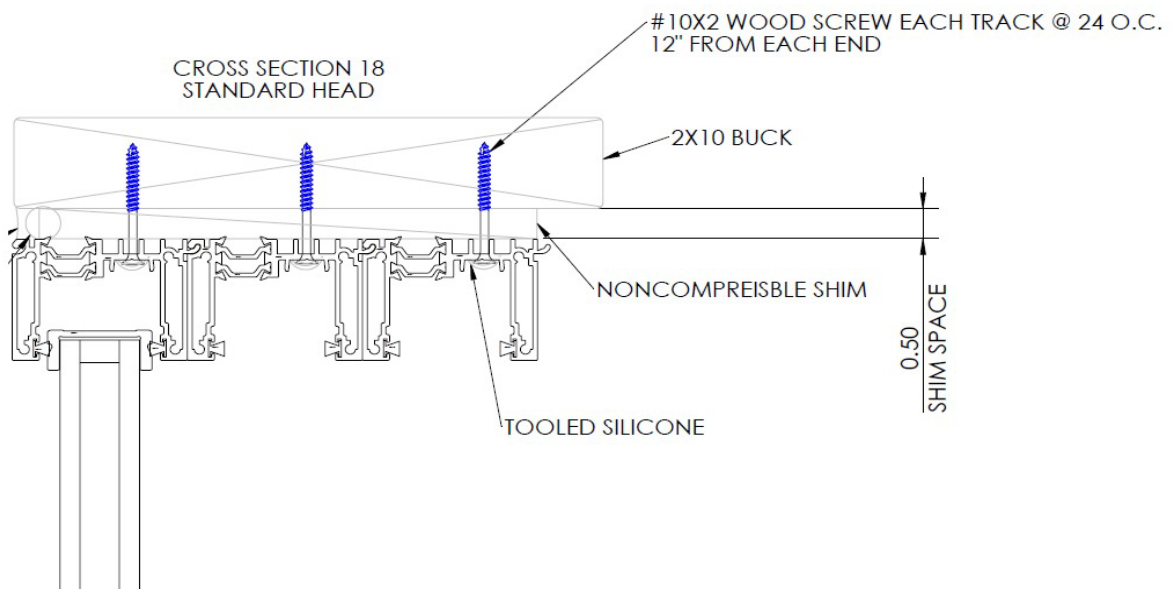

Figure 1
- Frame Head – holes should be drilled 12" from each end and every 24" on center per track. (See Figure 1).